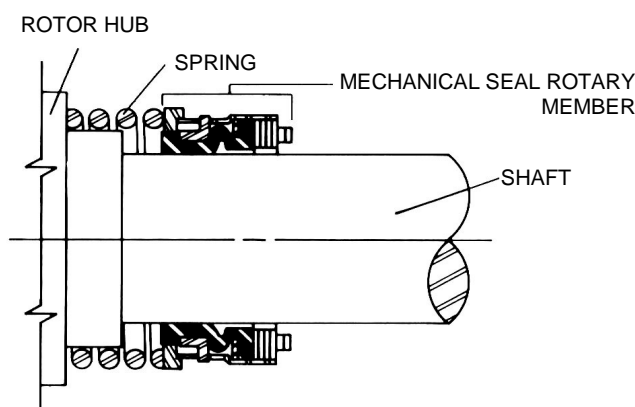

FIGURE 12
5. Place seal spring on shaft against rotor hub. Refer to figure 12.